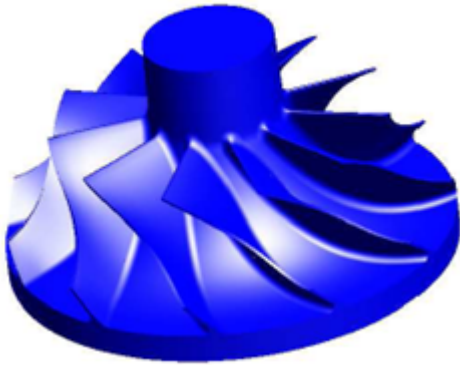

Fig.1
- It's able to process the machining at the interfered area of the mechanism or on complicated surfaces, thus it has a higher acceptance on workpiece appearance (Fig.1).